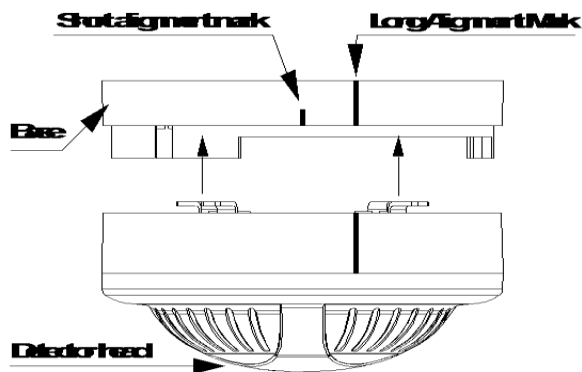

Fig. 4: Fitting the detector to the base
1. Align the detector alignment mark with the short alignment mark in the base, as shown in Fig. 4.